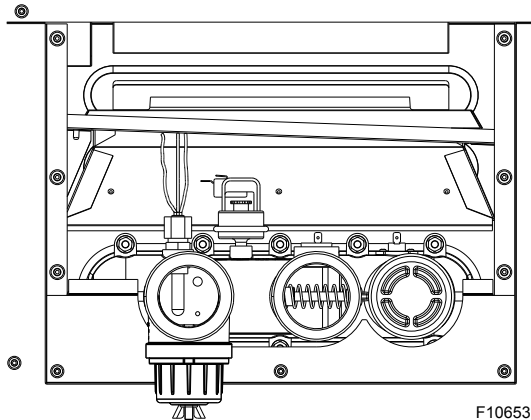

Figure 28. Component Wiring Locations – In/Out Header
2. Disconnect wires at high limit, AGS (automatic gas shut-off), water pressure switch on the in/out header, and ProTek Shield bonding wire. See **Figure 28**.
Re-attach the headers to the opposite sides, making sure they are installed in an upright position. Do not over-tighten. Torque should not exceed 7 ft/lb. See **Figure 28**.